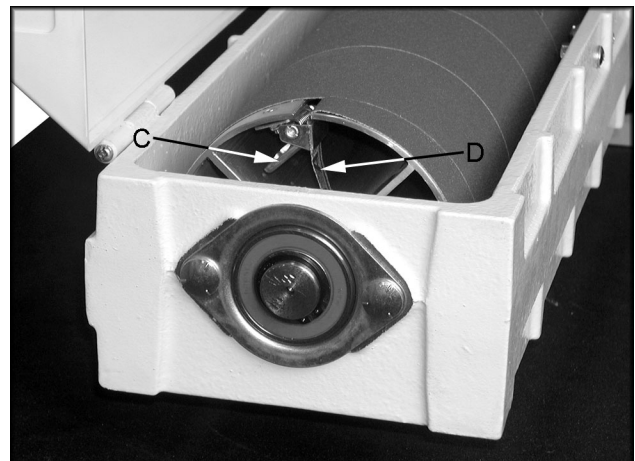

Fig. 8
3. Raise fastener lever (C, Fig. 8) on the outboard end of drum, and insert the tapered end of the abrasive (D, Fig. 8) so that it uses most of the width of the slot. Then release the clip lever to securely hold the strip end to the fastener.
4. The square edge of the abrasive strip should follow the edge of the drum, see Figure 8.